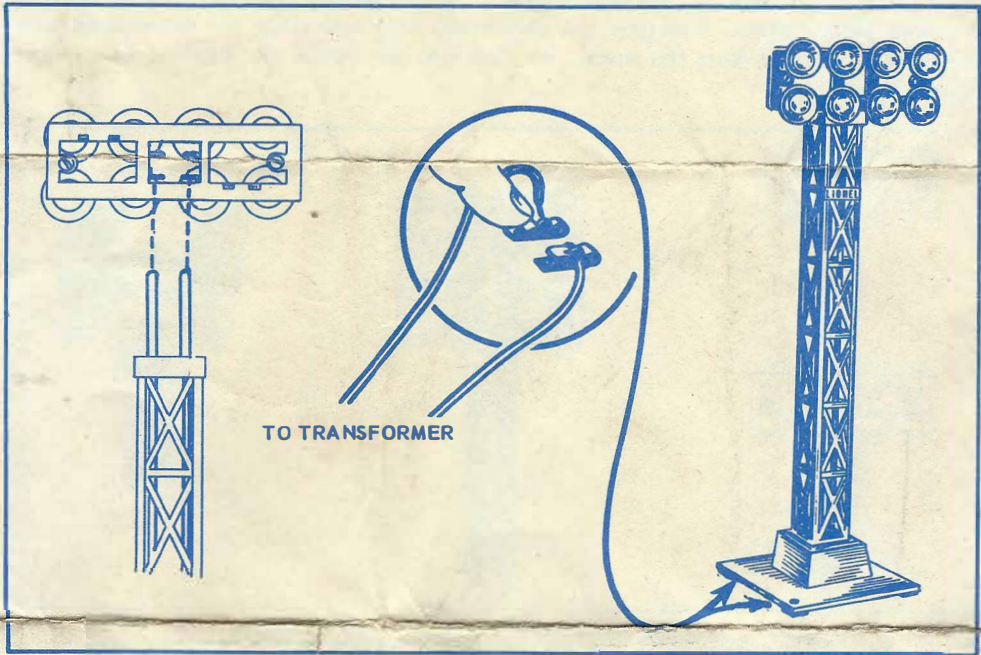

Figure 1 - Installation of No. 195 Floodlight Tower
4. Attach the lamp frame to the tower by sliding the brackets of the frame over the two rods projecting from the top of the tower. This also establishes electrical contact to the lamps. See Figure 1.